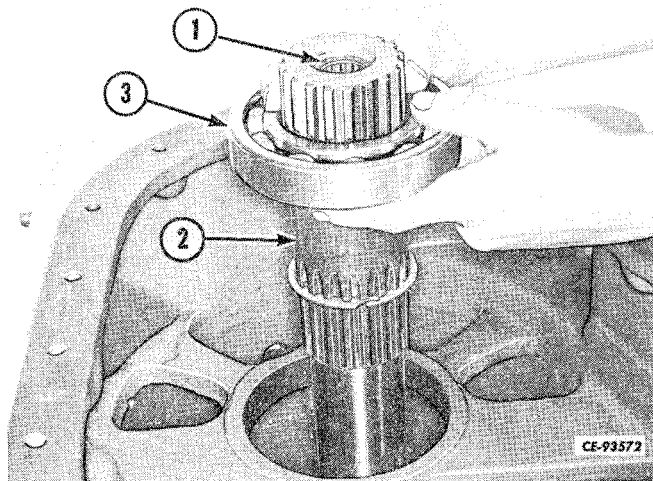

Figure 4-74
Install output shaft (2, Fig. 4-74) with bearing (3) through driven gear in housing.
Install roller bearing (1, Fig. 4-74) in top of shaft.